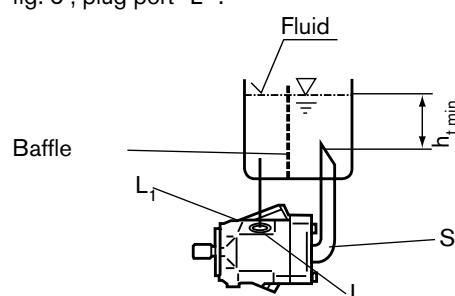

Fig. 5
b) Mounting below the tank: pipe ports " L_1 " and " S " acc. to fig. 5, plug port " L ".